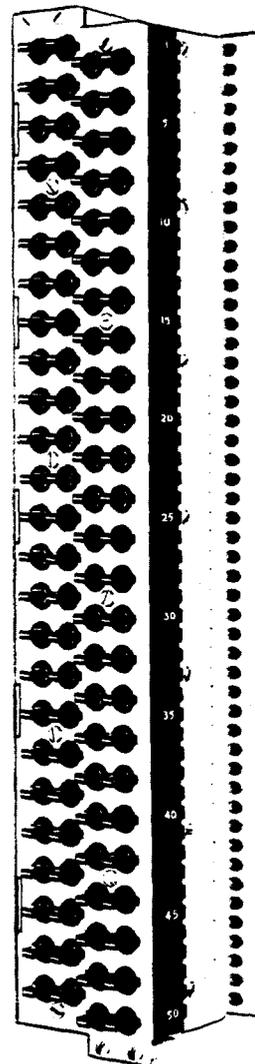

Figure 27—300-Type Connector With 50-Pair Stub
6.11 The 300-type connector (Figure 27) terminates outside plant cable requiring voltage and sneak current protection on double-sided protector frames and conventional distributing frames. The 300-type connector is rated DA (Discontinued Availability), and the recommended replacements are 303-, 305-, 309-, 310-, 310M-, or 311-type connectors. For the connector codes and more detailed information, refer to AT&T 201-207-101.